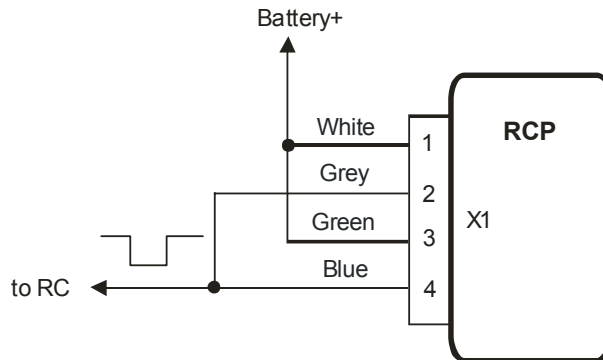

Figure 6
- The remote control with the only one output channel may be connected by the scheme at fig. 6 to add a possibility not only to turn the heater on, but also turn the heater off too. Every one impulse on the output of the remote control receiver unit will move the heater to the opposite state: switch on the idle heater, switch off the operated heater. To realize this mode it is necessary to connect in pairs the inputs Heater\_on+ with Heater\_off+, and the inputs Heater\_on- with Heater\_off-.